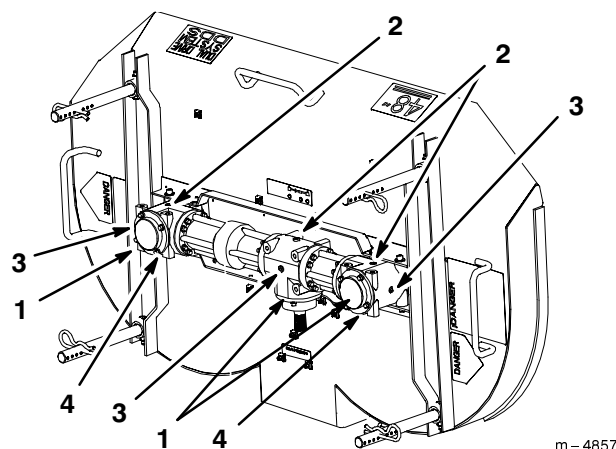

Figure 69
- With deck raised, remove plug on the bottom side of the gearbox. Let fluid fully drain into a pan. (Fig. 69).
- Reinstall the bottom plug into the gearbox. Use pipe thread sealant if needed (Fig. 69).
- Remove the top plug to fill gearbox (Fig. 69).
- Reinstall the top plug into the gearbox (Fig. 69).
3. Remove plug on the side of the gearbox. The fluid level must be up to side hole in gearbox (Fig. 69).
4. If needed, fill automatic transmission fluid (Dexron® III or equivalent) into top hole until it runs out the side hole in gearbox. It is full when it runs out the side hole (Fig. 69).
5. Reinstall the top and side plugs into gearbox using pipe sealant (Fig. 69).